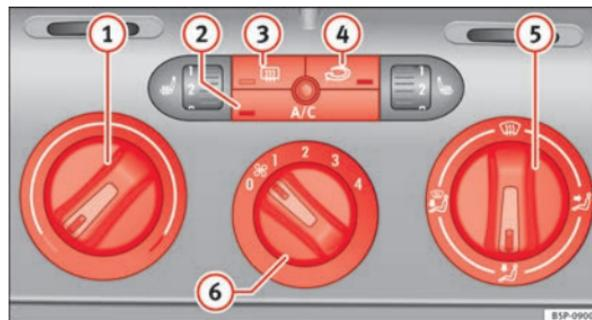

Fig. 127 On the dash panel: Climatic controls
- Turn the temperature selector ⇒ Fig. 127 ① clockwise to select the desired temperature.
Air recirculation mode ⇒ Fig. 127   prevents strong odours or contaminated air from the outside air from entering in the vehicle, for example when passing through a tunnel or in a traffic jam.